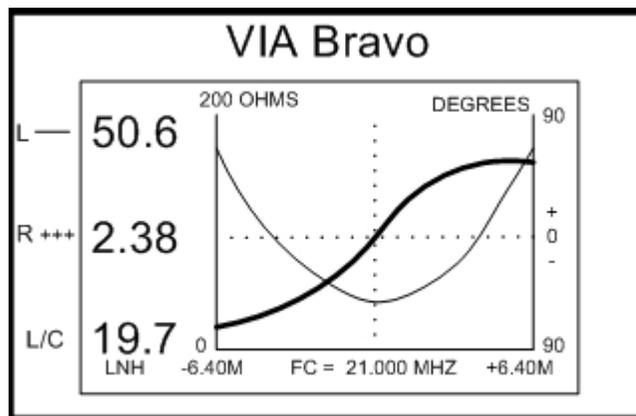
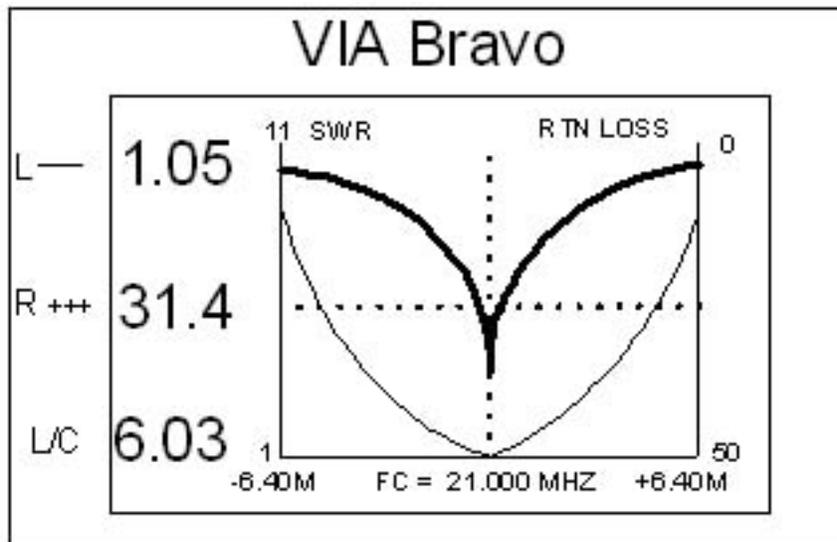

Figure 2
Figure 3
**Vector Impedance Measurements** Most antenna systems are 50 Ohms. This includes the output impedance of the transceiver, the impedance of the feeder cable, and the impedance of the antenna. An antenna is resonant at the frequency(s) where the Impedance (Phase) Angle is equal to zero (0). Refer to the system or radio specifications for operating requirements. The antenna Impedance should be at or near the manufacturer's specification (usually 50 Ohms) across the frequency band of interest. See Figure 2.
In Figure 2, Impedance is on the Left Plot and Impedance (Phase) Angle is on the Right Plot (thick line). The center is set at the resonant frequency (FC) of the antenna at 21 MHz, and the Sweep Range is set at 12.80 MHz (6.40 MHz below FC and 6.40 MHz above FC). The Impedance (Z) of the device under test is 50.6 Ohms at the center frequency, and the Impedance (Phase) Angle is 2.38 degrees at the center frequency. This Impedance Angle reading means that the device is inductive rather than capacitive at the center frequency. A negative Impedance Angle reading would identify the device as being capacitive. The L/C reading of 19.7 nH (nano-henry) is the device's inductive measurement at the resonant frequency. Depending on the system specifications, these reading may be perfectly acceptable.
SWR and Return Loss are scalar measurements, that is, they do not have any resonance information. This type of testing is a rough indication of system match. It was a popular way to measure antennas because the SWR meters were so much cheaper than vector (non-scalar) measuring systems. Although SWR measurements are useful in testing antennas, the Vector Impedance readings provide the most information for testing antennas, cables, and electrical devices because SWR and Return Loss do not show where the antenna is resonant. See Figure 3 for an example of the of the SWR plot.
In the Figure 3, the SWR, on the left plot, is 1.05:1. In this example, the minimum SWR occurs at the resonant frequency (same antenna shown in Figure 2), but this will not hold true for most cases. The Return Loss, on the right plot (thick line), is 31.4 db. L/C is the Q measurement, which is 6.03. It should be noted that SWR and Return Loss have a direct relationship. The center frequency and sweep width are the same as in Figure 2. Refer to the manufacturer's specifications for SWR and Return Loss requirements for each antenna.